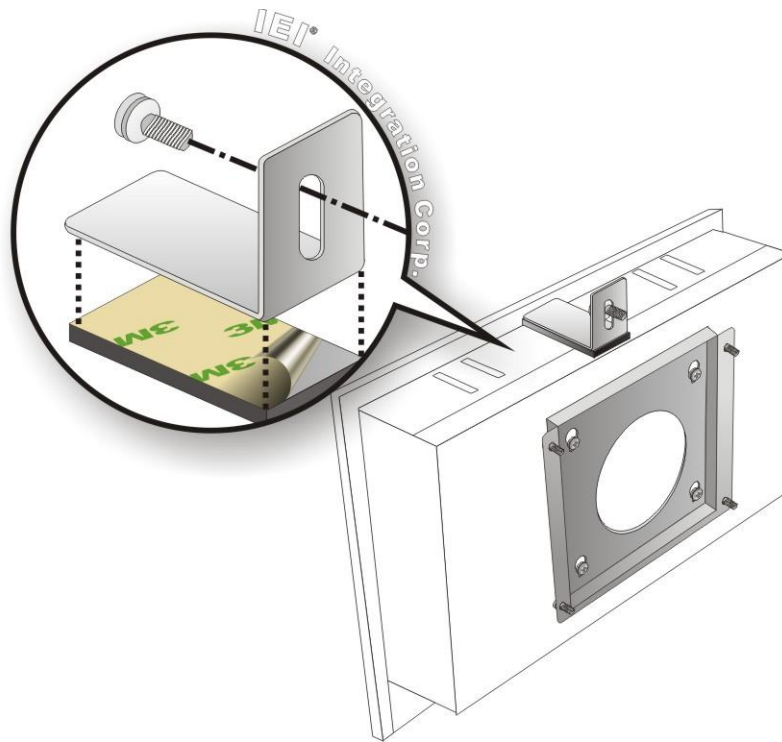

Figure 3-10: Secure the Chassis
Step 9: Secure the panel PC with the wall-mounting kit. To do this, stick the protective cushion to the wall-mounting kit first. Then, put the wall-mounting kit on the top panel of the panel PC. Carefully mark the location of the wall-mounting kit screw holes on the wall. Drill a pilot hole at the marked location on the wall. Secure the wall-mounting kit to the wall by inserting a retention screw into the pilot hole on the wall (**Figure 3-10**). This step is to avoid the panel PC being pushed apart from the wall-mounting bracket accidentally.